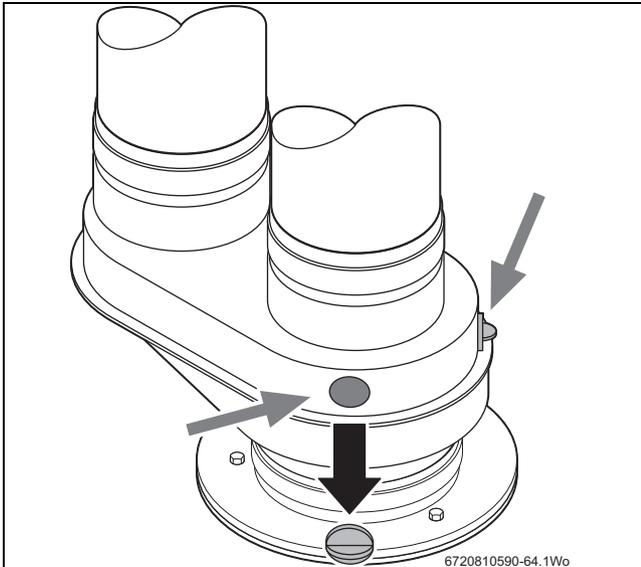

Fig. 71 Open one of the flue gas test ports
- ▶ Open one of the flue gas test ports (→ Fig. 71).